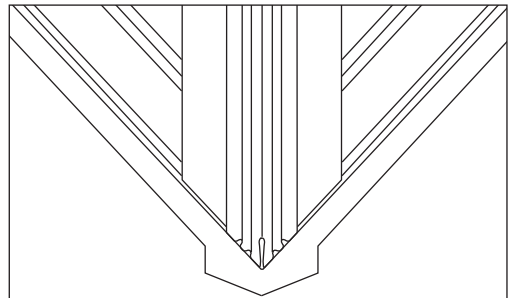

Fig 5 - Fixing the valley trough
- 5 Fix dry valley trough by nailing outer welts to supporting timbers at 500mm max, centres, and overlapping lead (code 4) apron by a minimum of 150 - 200mm (Fig. 5).